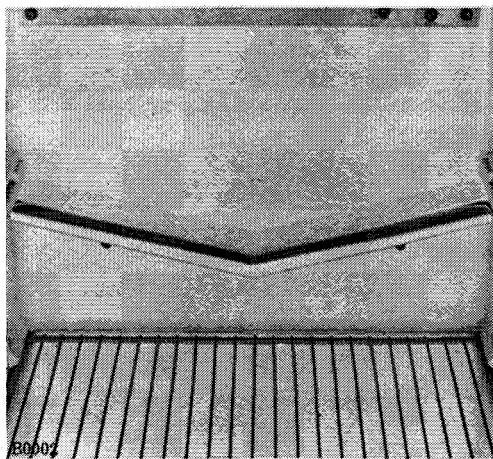

Fig. 4
**Important:** The defrost water drain opening (Fig. 4), located at the center of the special conveyor of the refrigerator compartment, should be cleaned at regular intervals in order to prevent the defrost water from overflowing and dripping onto the food stored in this compartment.